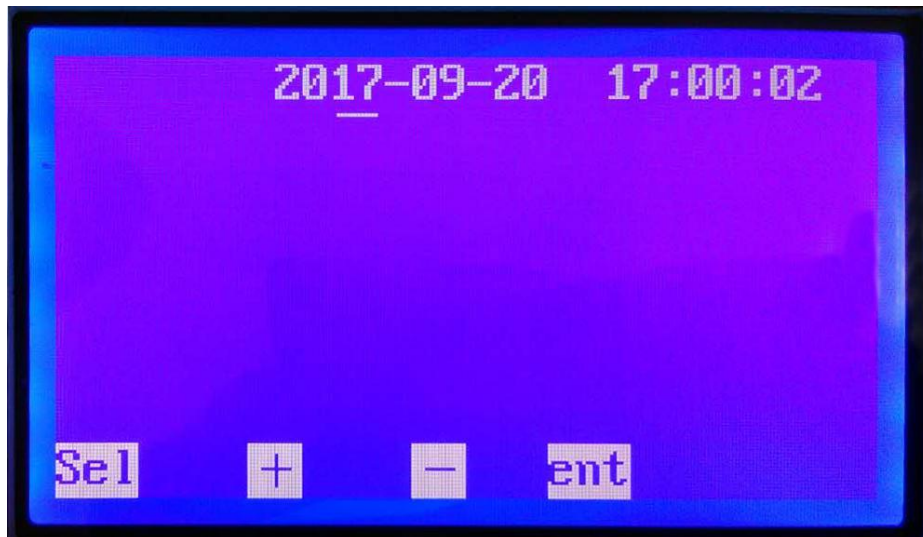

Figure 5. Time Settings page
5. In figure 2 page, press the select key to move the cursor) time Settings, press the ok button to enter time set child pages (figure 5).